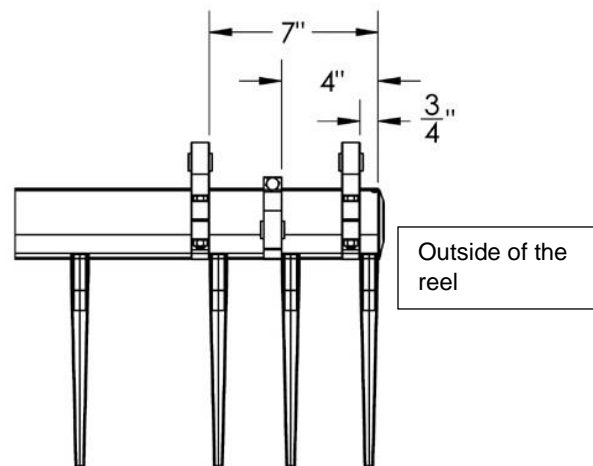
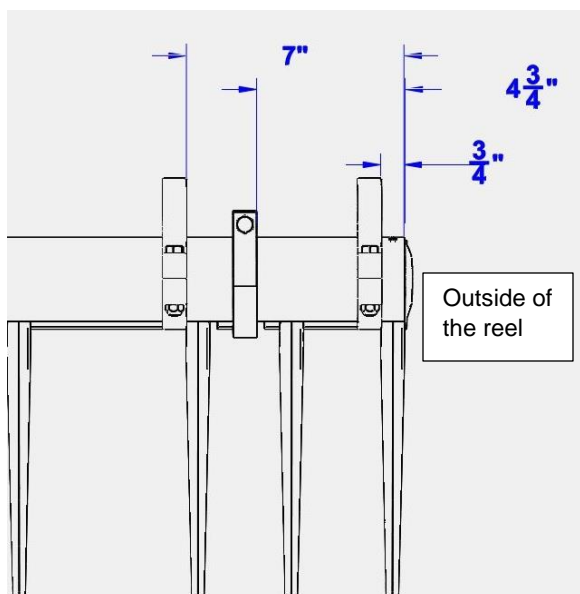

Figure 268 Standard Reel
Figure 269 Cam Reel
7. When installing the spider clamps on the reel tube the spacing should be checked. This will aid in assembling the reel bat back on the spiders. Make certain the dimensions for the clamps on the cam end of the reel are as shown in. Figure 268 for the standard Reel and Figure 269 Cam Reel. The only difference between the Standard reel and the Cam reel is the dimension for the control knuckle clamp.